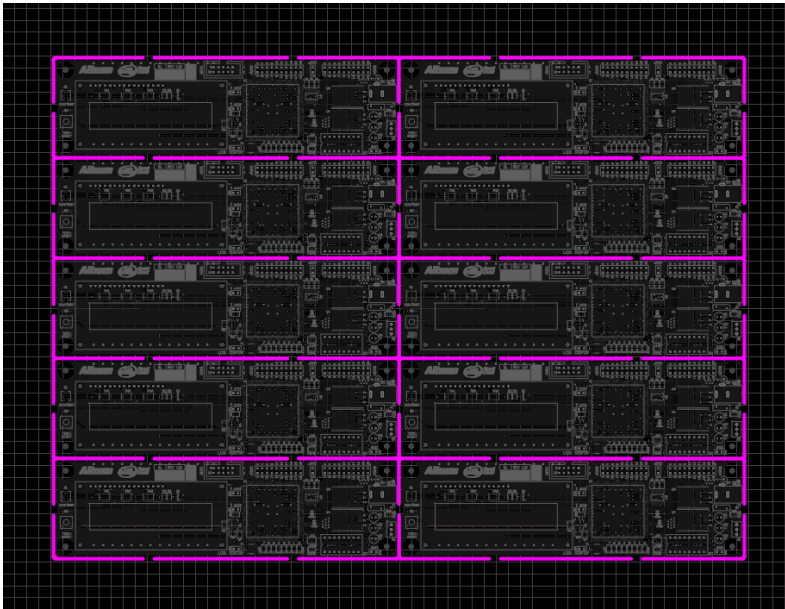

Figure 17. The Embedded Board Array with properly positioned slices in the route tool path
- b) Repeat the two vertical cuts for the second column of boards in the panel. The result should resemble Figure 17.